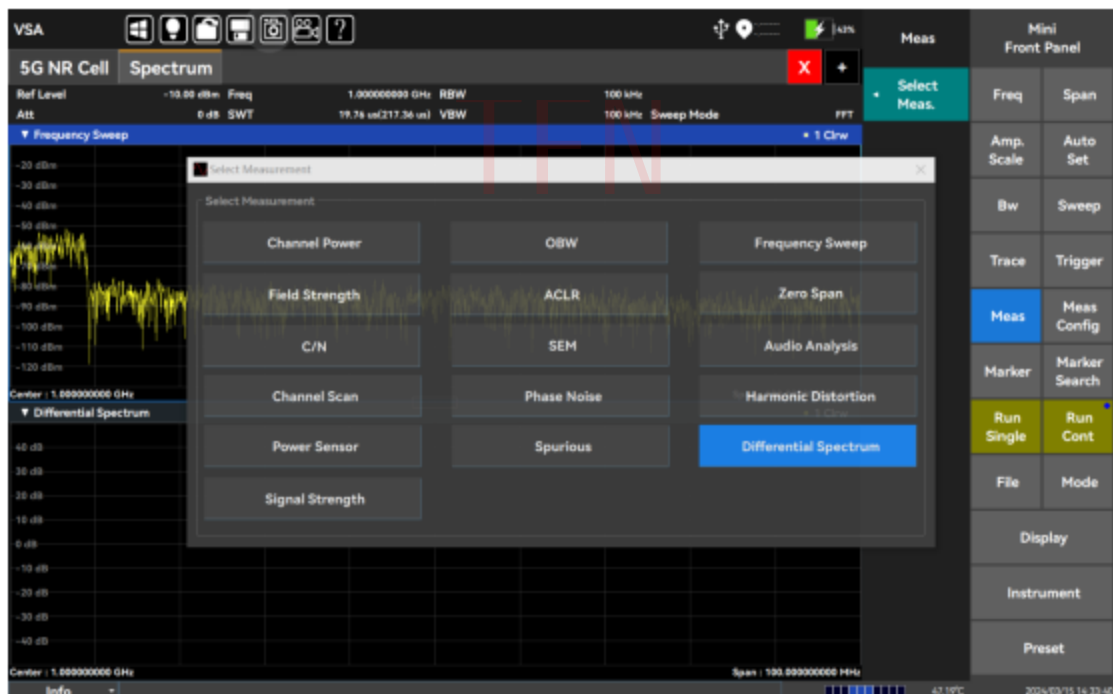

Figure 5.44 Select the measurement interface diagram
- Press [measure] and select [differential frequency spectrum], as shown in Figure 5.44.